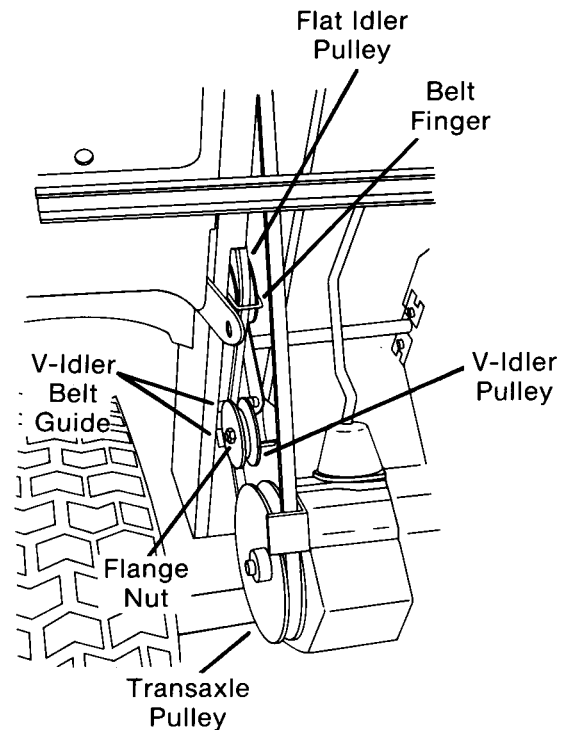

FIG. 53
- B. Remove flange nut holding V-idler pulley on the moveable idler arm. (Fig. 53)
- D. Slide V-idler pulley to the right until belt is clear of V-idler belt guide. (Fig. 53)
- E. Carefully remove flat idler pulley and belt finger, keeping all parts and mounting hardware in order. (Fig. 53)
- G. Reassemble flange nut to secure V-idler pulley. Be sure bent bottom edge of V-idler belt guide fits under bottom edge of moveable idler arm, and belt is inside belt guide, before tightening nut. (Fig. 53)
- Remove flange nut holding V-idler pulley clutch/brake arm. (Fig. 53)